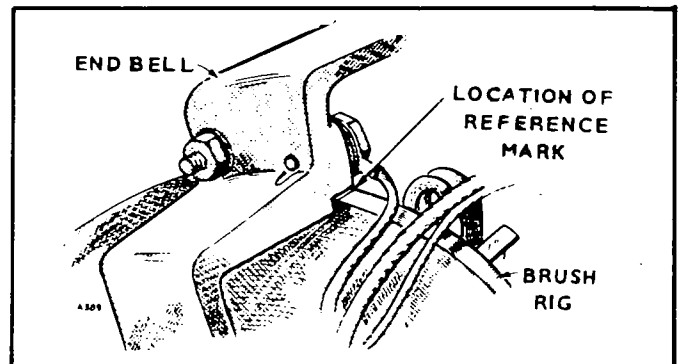

FIGURE 8. BRUSH RIG NEUTRAL
4. After you have made sure the brush rig is free to rotate, rotate the rig back to the original location, start the unit and run at rated rpm. (Original location is shown in Figure 8 with reference mark.)